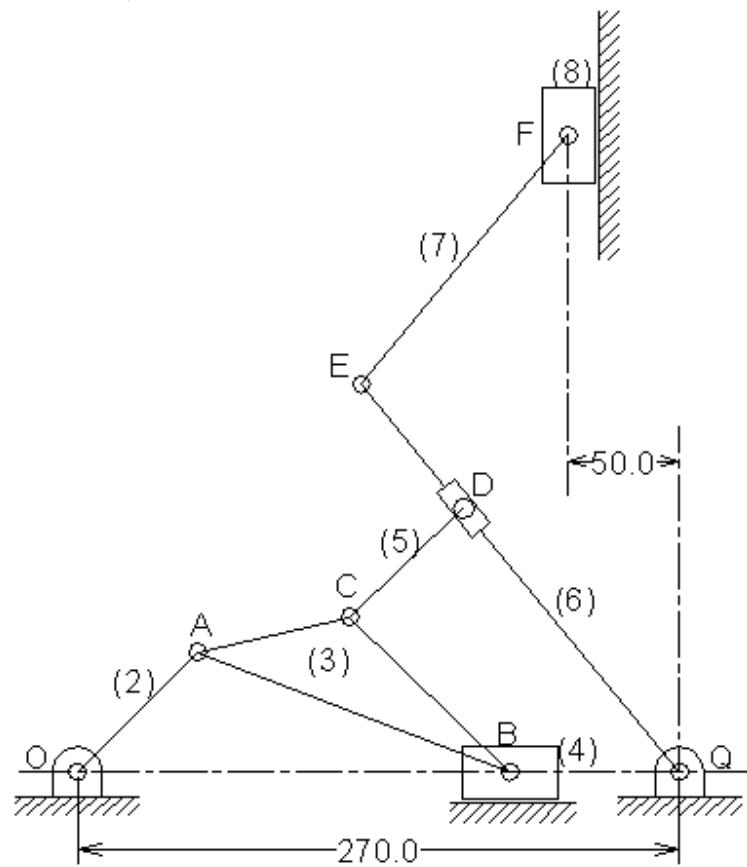

Figure P2.21
2.21 Find the angular velocity and the angular acceleration of link (7) of the eight-bar linkage shown in Figure P2.21. Also, find the velocity and the acceleration of point F on the slider (8). The angular velocity of the crank (2) is 1 rad/s counter clockwise. The angular acceleration of the crank is 2 rad/s² clockwise. The crank angle is 45°.